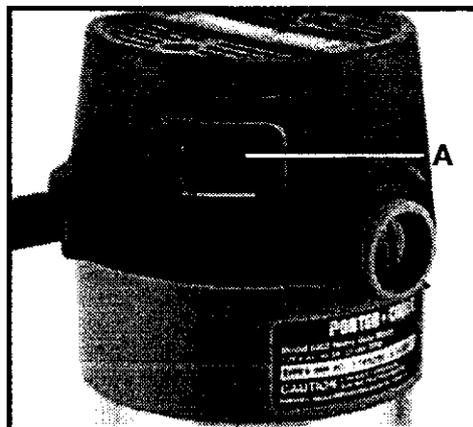

Fig. 5
To start the tool, move the rocker switch (A) Fig. 5 to the "ON" or "I" position. To stop the tool, move the rocker switch to the "OFF" or "O" position.